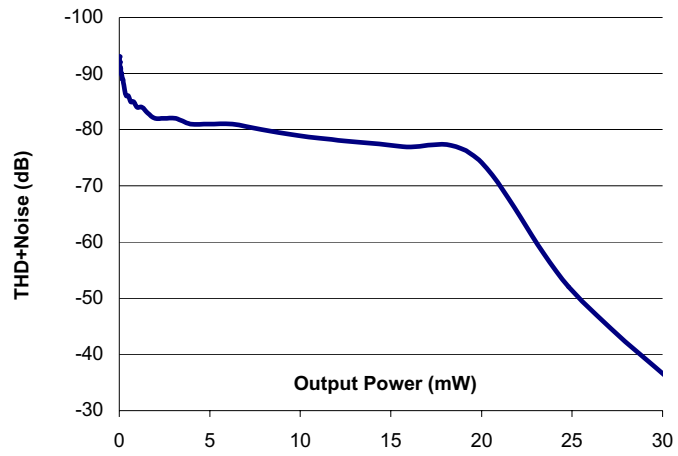

Figure 3 Distortion Versus Power on Headphone Outputs, using 32 Ω Load and AVDD = HPVDD = 3.3V
- Harmonic distortion on the headphone output decreases with output power – see Figure 3.